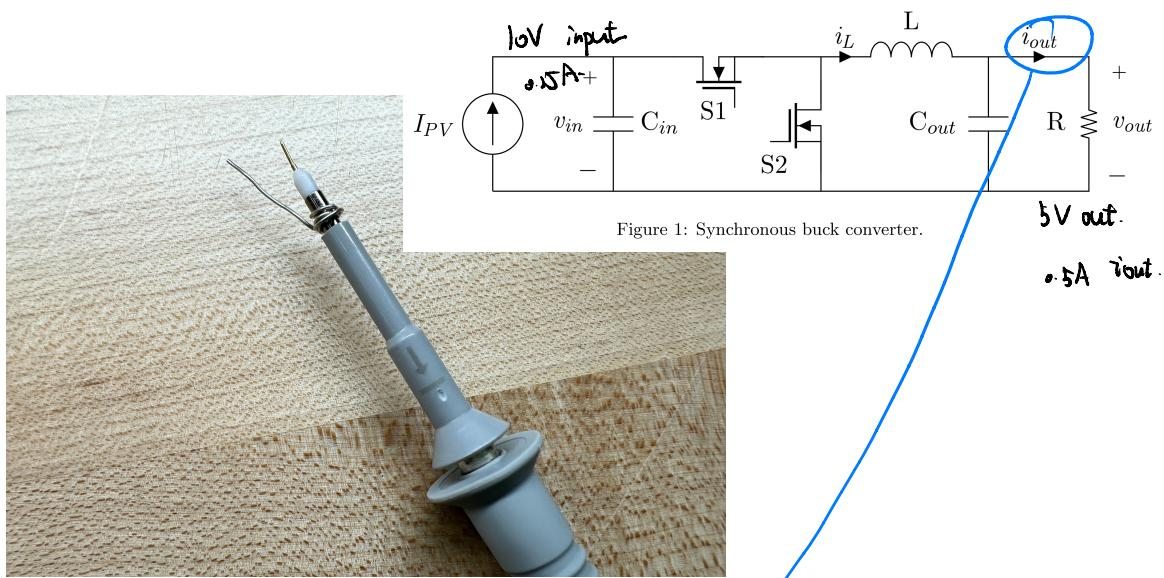

Figure 1: Oscilloscope probe configured with a ground spring.
3. Create a ground spring for an oscilloscope probe using a strand of wire, as shown in Fig. 1. Remove the witch hat from the probe, and attach the ground spring. The ground spring creates a lower inductance path for the measurement, which is important for observing voltages with high frequency content.